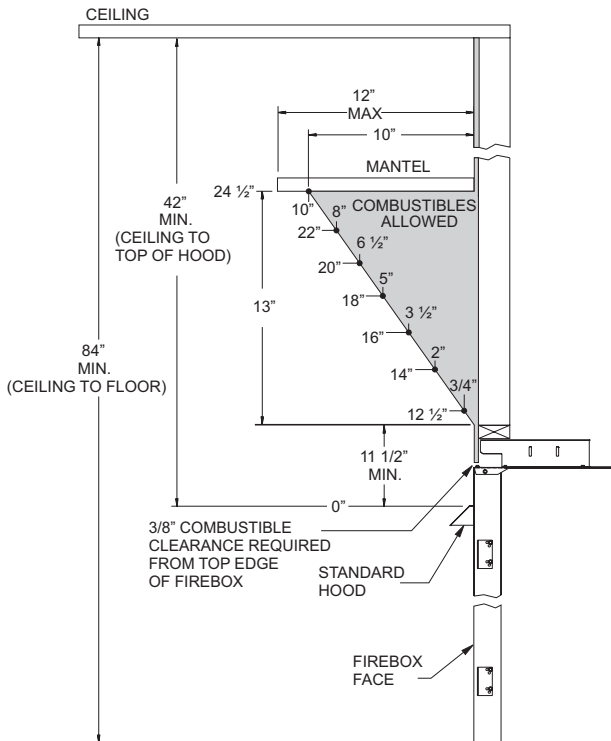

Figure 3a - Mantel Clearances with Standard Hood
**Ceiling Clearances:** The ceiling height should not be less than 42" from the top of the hood. **See Figures 3a and 3b.**